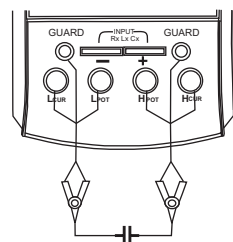

Figure 11
- b. Insert the black and red testing lines with alligator clip into the "Lcur", "Lpot", terminals and "Hcur", "Hpot", terminal respectively. Connect the alligator clips to the ends of capacitance corresponding to its polarity (shown in the figure 11).